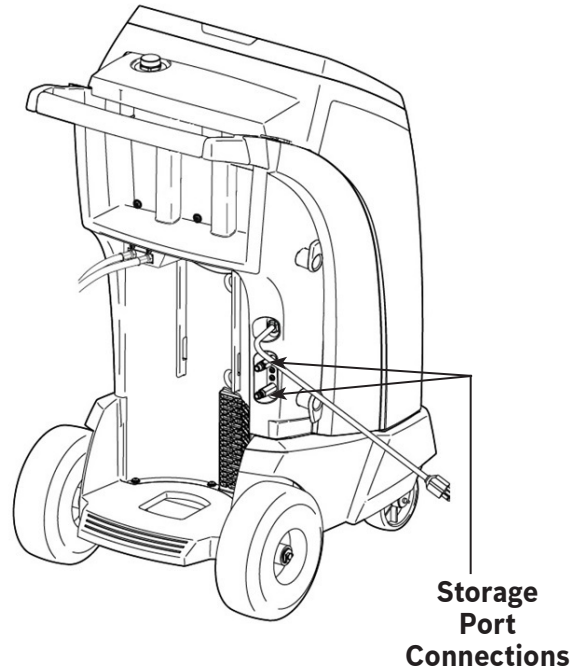

Figure 3
2. Connect the service hoses to the machine's storage port connections shown in Figure 3.